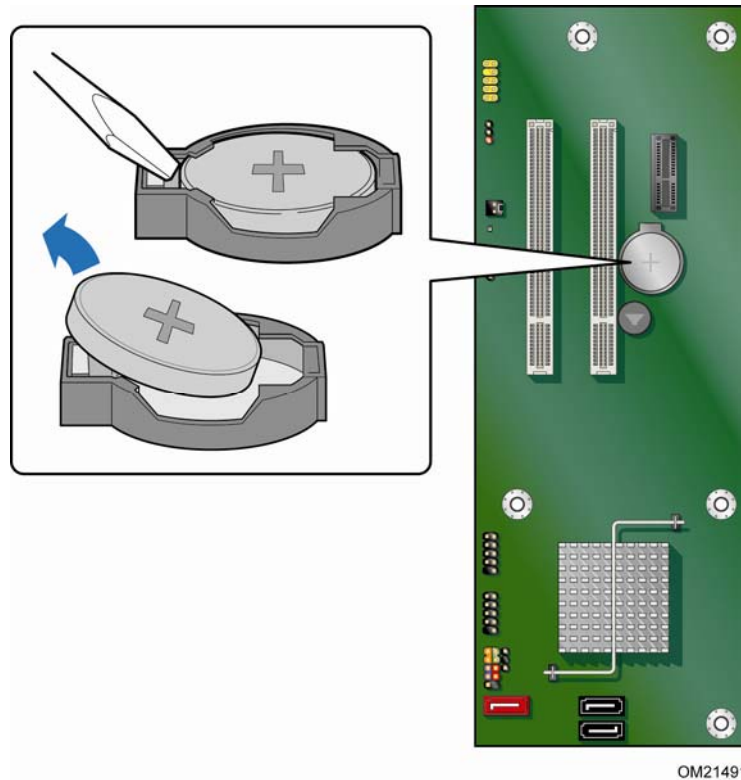

Figure 23. Removing the Battery
If the voltage drops too low, the BIOS Setup program settings stored in CMOS RAM (for example, the date and time) might not be accurate. Replace the battery with an equivalent one. Figure 23 on page 57 shows the location of the battery.
4. Locate the battery on the board (see Figure 23).